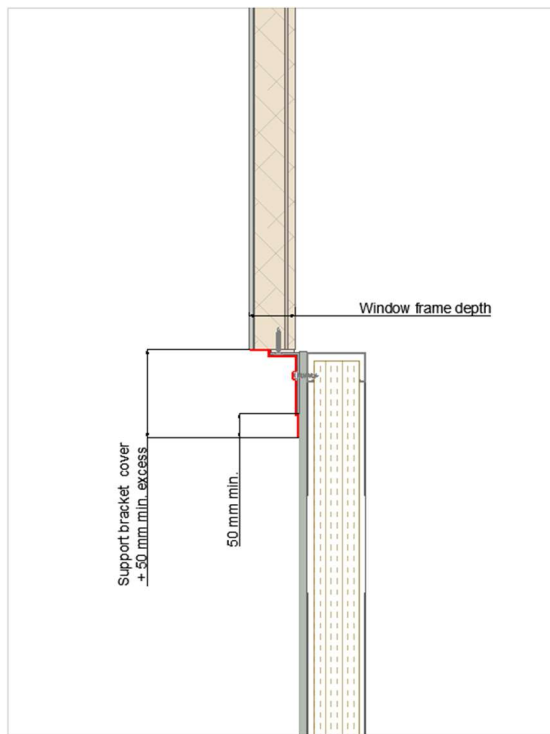

Figure 1
- At the sill the width of the membrane should be wide enough to cover the support brackets and with at least a 50 mm excess to enable bonding to the primary substrate on the trailing edge. It is possible in some circumstances that the sill membrane may be wider than the head and jambs (Figure 1).
- Fold the membrane around any support brackets ensuring that you have at least 50 mm available on the trailing edge that can be bonded to the substrate (See Figure 1).